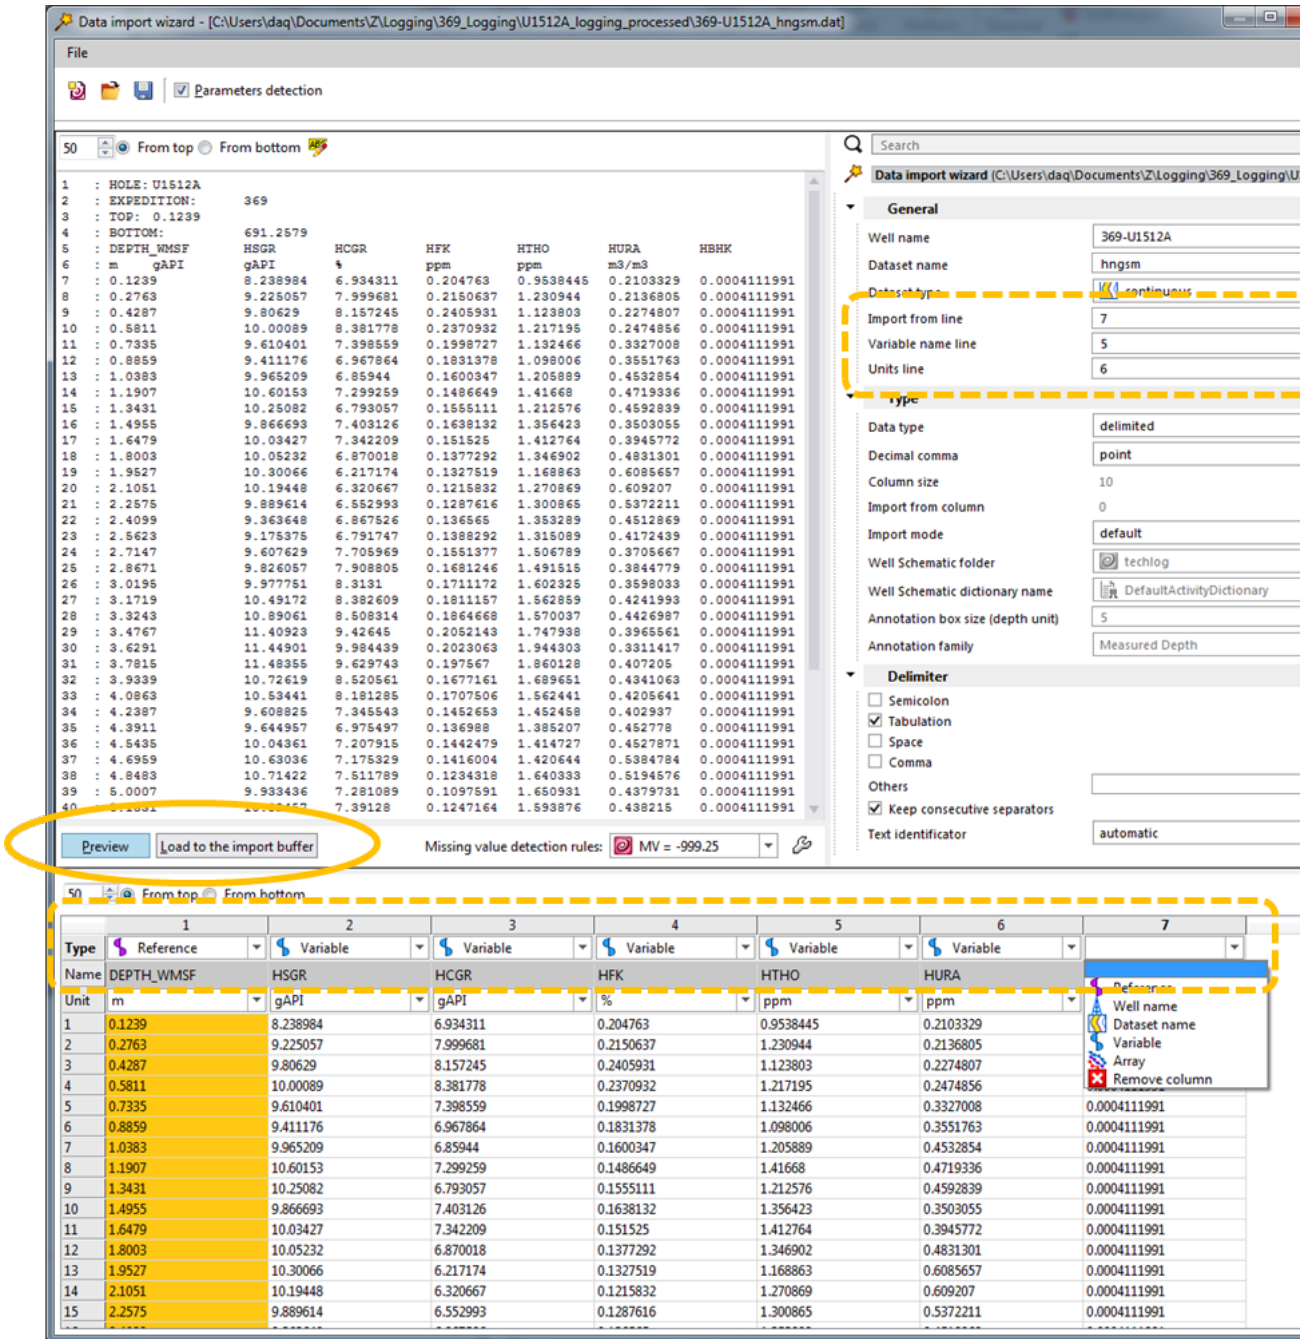

Figure 7: Data import wizard for DAT, TXT and CSV files.
- Using Windows File Explorer, select a DAT, TXT or CSV file and drag into the Import Buffer Panel (Fig. 7)
- In the Data import wizard window that pops out, define the first line to be imported, the variable name and units (Fig. 7). Use the ASCII file display panel as a reference.